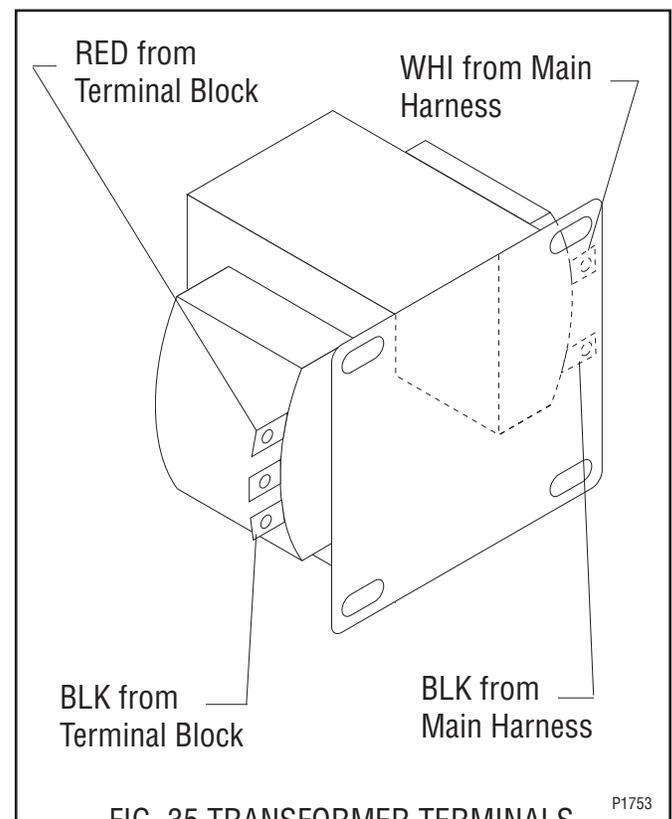

FIG. 35 TRANSFORMER TERMINALS
5. Refer to Fig. 35 and reconnect the wires.